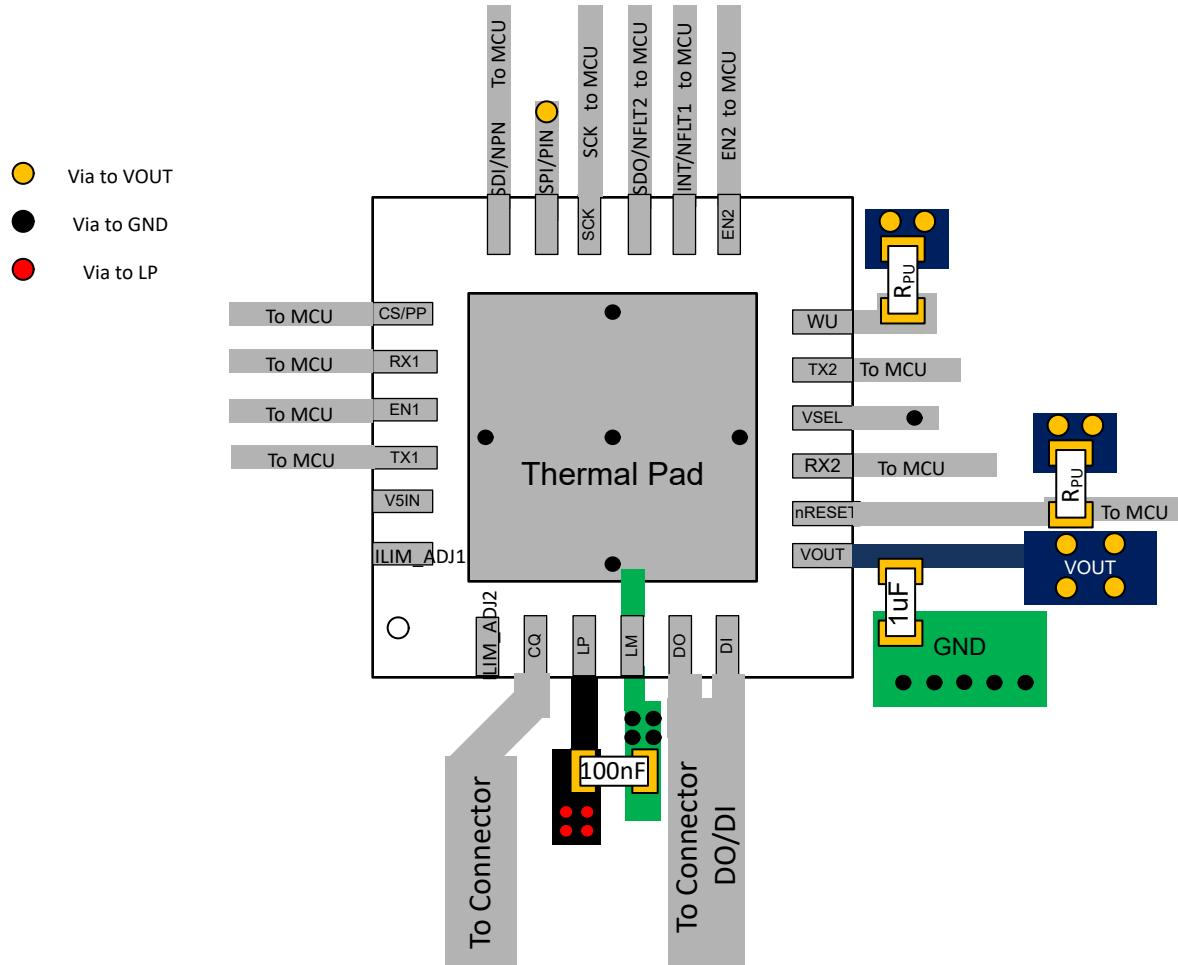

図 8-8. Layout Example (SPI mode shown)
- Use of a 4-layer board is recommended for good heat conduction. Use layer 1 (top layer) for control signals, layer 2 as power ground layer for LM, layer 3 for the 24V supply plane (LP), and layer 4 for the regulated output supply (VOUT).
- The optimum placement of the capacitor is closest to the transceiver's LP and LM terminals to reduce supply drops during large supply current loads. See **図 8-8** for a PCB layout example.